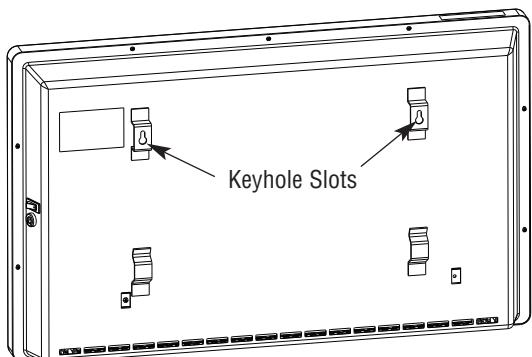

Figure 2
- 2 For **wall mounting** applications, omit Step 1 above. Use appropriate fasteners and drill 2 holes in the desired location, 15-3/4" apart, center to center, so that the heater bottom is about 20" from the floor. Allow the fasteners to extend at least 1/4" from the wall and fit the keyhole slots in the heater back onto the fasteners (see Figure 2). Make sure the heater is secure.